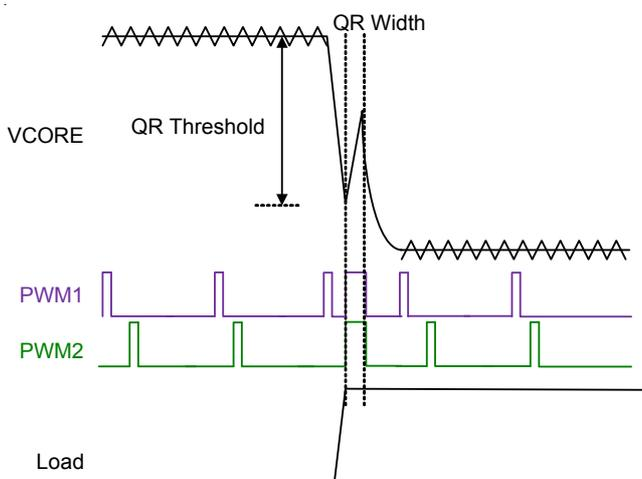
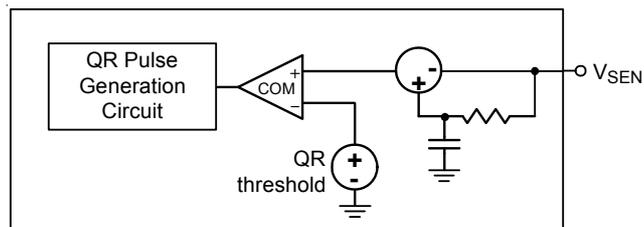

Figure 24. Quick Response Mechanism
Figure 25. Simplified QR Trigger schematic
**Quick Response (QR) Mechanism**
When the transient load step-up becomes quite large, it is difficult for loop response to meet the energy transfer. Hence, that output voltage generate undershoot to fail specification. The RT3601BC has Quick Response (QR) mechanism being able to improve this issue. It adopts a nonlinear control mechanism which can disable interleaving function and simultaneously turn on all UGATE one pulse at instantaneous step-up transient load to restrain the output voltage drooping. Figure 24 shows the QR behavior.
The output voltage signal behavior needs to be detected so that QR mechanism can be triggered. The output voltage signal is via a remote sense line to connect at the VSEN pin which is shown in Figure 25. The QR mechanism needs to set QR width and QR threshold. Both definitions are shown in Figure 24. A proper QR mechanism set can meet different applications. The SET1 and SET2 pins can set QR threshold and QR width by internal current source 80μA with multi-function pin setting mechanism for Main and AUX1 VR rails. Table 6 shows the QR\_TH and QR\_WIDTH for Main and AXUI VR rails on the SET[1:2] pins.